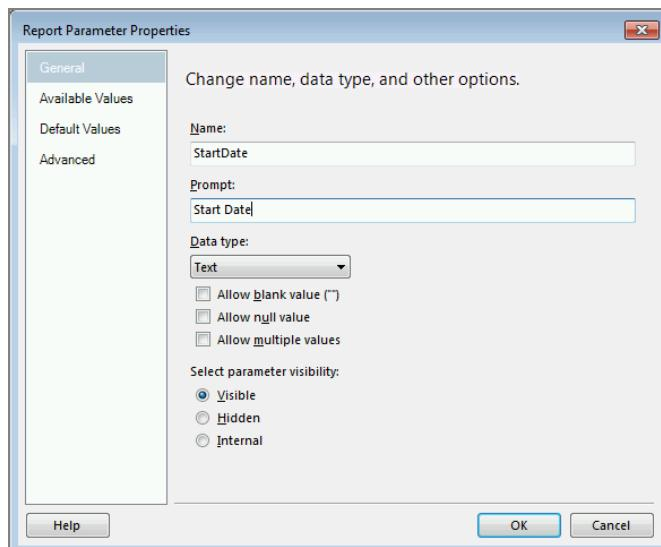

Figure 5-9
4. The Prompt property is what the users see when they are interacting with the report. Ensure this field has a value that makes it clear for users to know how to interact with it, as shown in Figure 5-9.